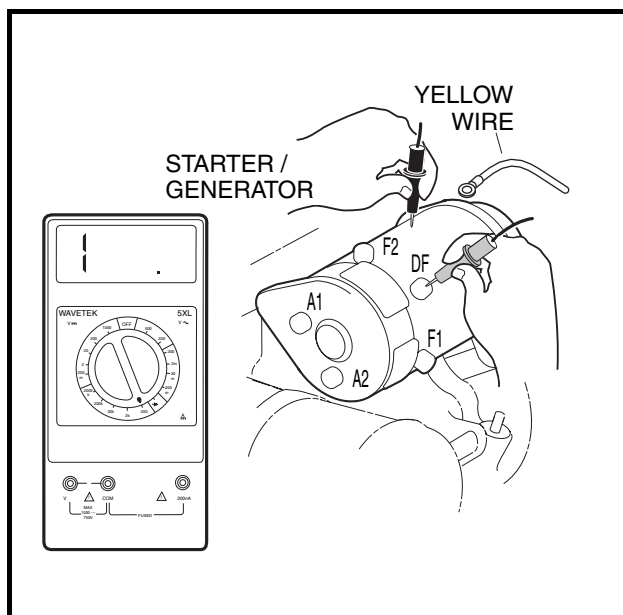

Figure 11-17 Check Starter Terminal Continuity
4. Disconnect the wires from all the terminals on the starter/generator. Then place the black (–) probe of a multimeter, set to ohms, on the starter/generator housing (scratch through the finish to ensure a good ground). While holding the black probe against the housing, place the red (+) probe (one at a time) on the A1, A2, F1, F2 and DF terminals respectively (**Figure 11-17, Page 11-19**). The readings should be no continuity. If the readings are incorrect, the starter/generator will need to be removed from the vehicle and disassembled by a qualified technician. **See Starter/Generator Removal, Section 12, Page 12-1.**